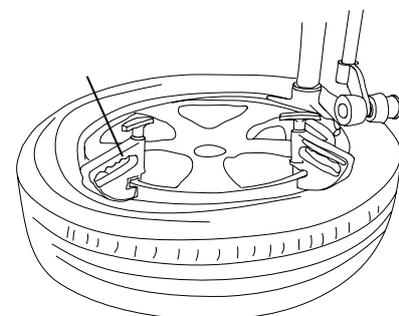

Fig 10
2. Make tyre top bead upon rear of demounting/mounting head and below front of mounting/mounting head, move right pressing arm and make sure it is locked, pull handle D down to make tire pressing roller assembly to press top bead to position below demounting/mounting head. Lock tyre pressing head of 098D help arm on rim edge, rotate turntable, finish tyre mounting (Fig 10).